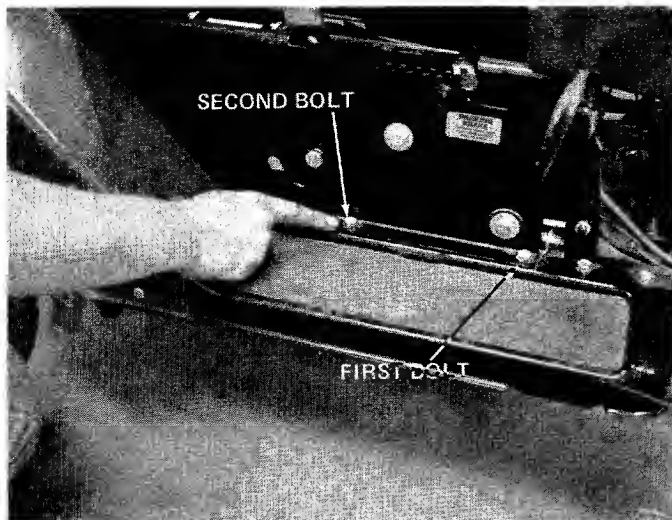

FIGURE 10
5. Remove the second bolt on the running boards as shown in figure 10. (Right and left hand sides).